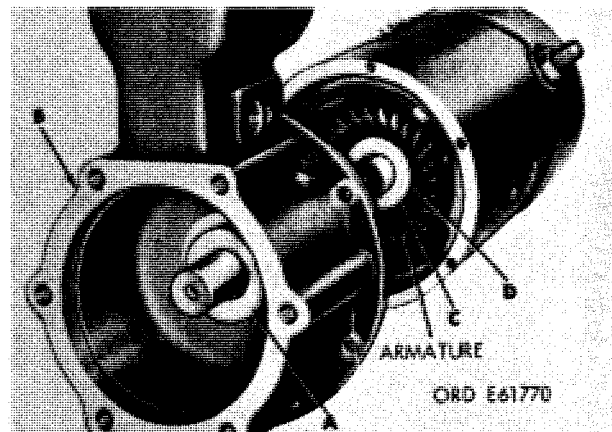

Figure 3-12. Removing or installing drive clutch thrust washers.
e. Remove two fiber thrust washers (A, fig. 3-12), shift housing assembly (B), fiber washer (C), and steel thrust washer (D) from armature shaft.